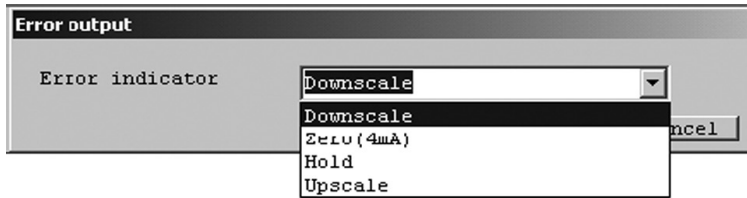

Fig.34
- ③ As shown in Fig. 34, select the output level from the drop-down list by clicking on the arrow mark at right.